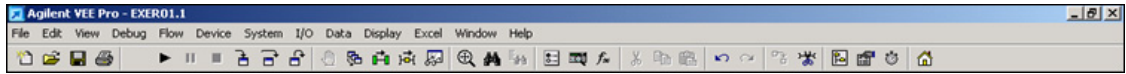

Figure 1-2 The Three Upper-Right Screen-Control Buttons
- 1 Examine the upper-right three buttons on the light blue and dark blue bars. Their names are: minimize (the underline button), maximize (the overlapping squares button), and close (the X button). They perform similar operations (see Figure 1-2).